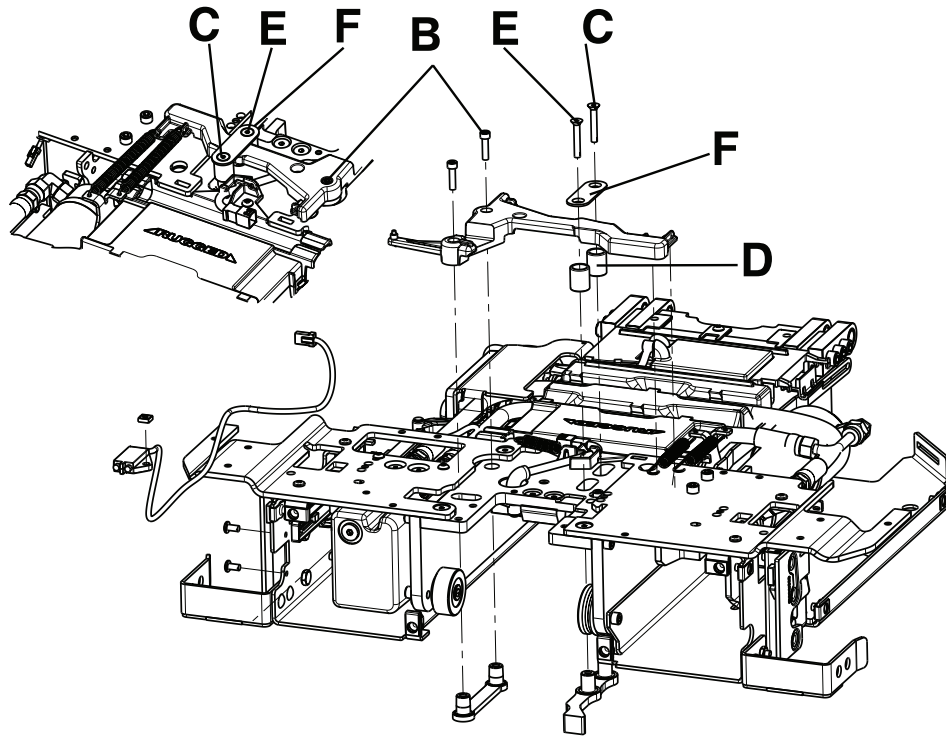

Figure 24 – TPS assembly
4. Using a 5/32" hex wrench, loosen (do not remove) the socket head cap screw (B) that secures the trolley mechanism arm (Figure 24).
5. Using 1/8" hex wrench, remove the flat head cap screw (C) that secures the link to the trolley mechanism arm and remove the trolley mechanism pivot pillar (D) (Figure 24).
6. Using a 1/8" hex wrench, loosen (do not remove) the flat head cap screw (E) that secures the front link (F) to the trolley mechanism arm and swing it out of the way (Figure 24).